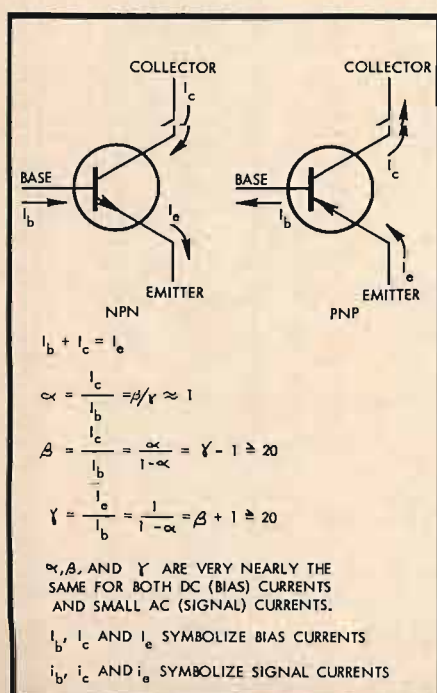

Fig. 1. Relationships between α , β , and γ .
2. The currents in the base, emitter, and collector leads are related by the three symbols α , β , and γ as summarized in Fig. 1. It is convenient to remember that α is nearly unity and β is nearly equal to γ and numerically equal to 20 or more.